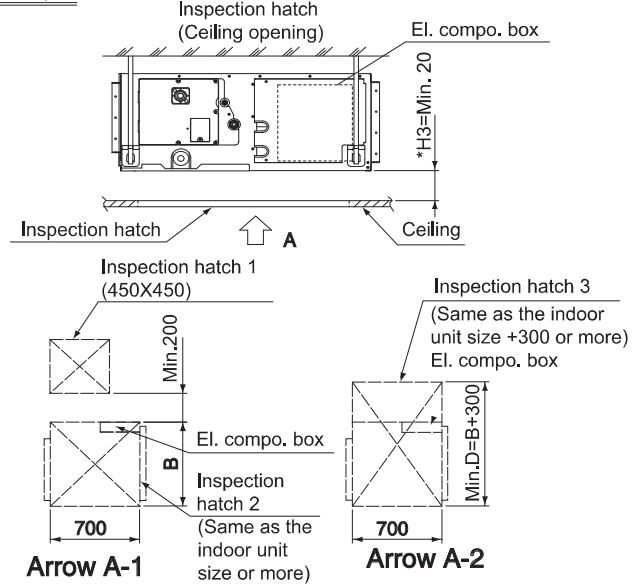

Fig.2-3
- Inspection hatch 1 (450 x 450) on the control box side and inspection hatch 2 on the bottom of the product, (Fig. 2-3, arrow A-1)
- Inspection hatch 3 on the bottom of the product and on the bottom side of the control box, see direction view A-2 (Refer Fig. 2-3)